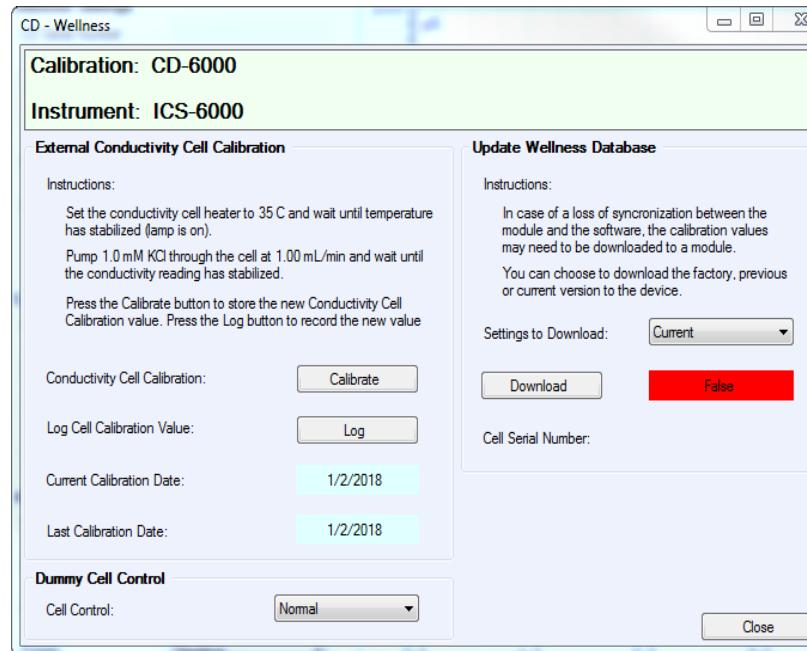

Figure 10-56. Wellness Panel: Dionex ICS-6000 Conductivity Detector
- Under **Detector Settings**, click **Calibration**. The Wellness panel opens (see Figure 10-56).